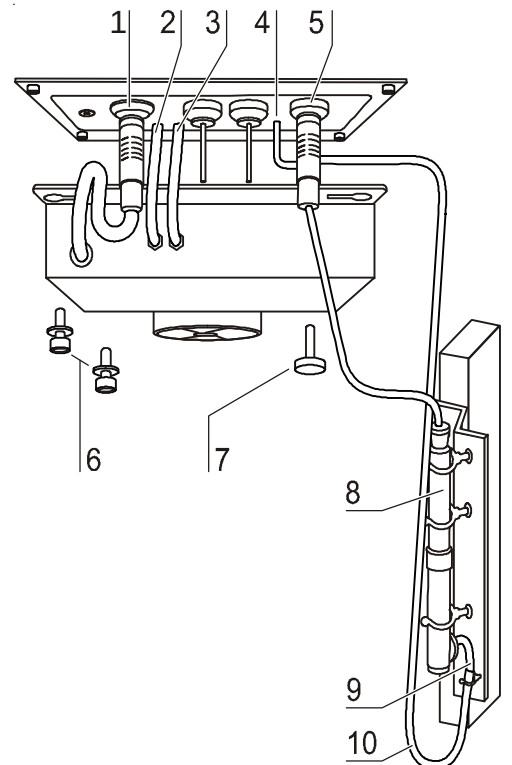

Fig. 34
1. **Fig. 34:** Disconnect gas analyzer connections. Remove gas analyzer connecting plug [1] and oxygen electrode connecting plug [5] as well as connecting hoses [2], [3] and oxygen hose [10] from connecting sleeves [4] and [9].